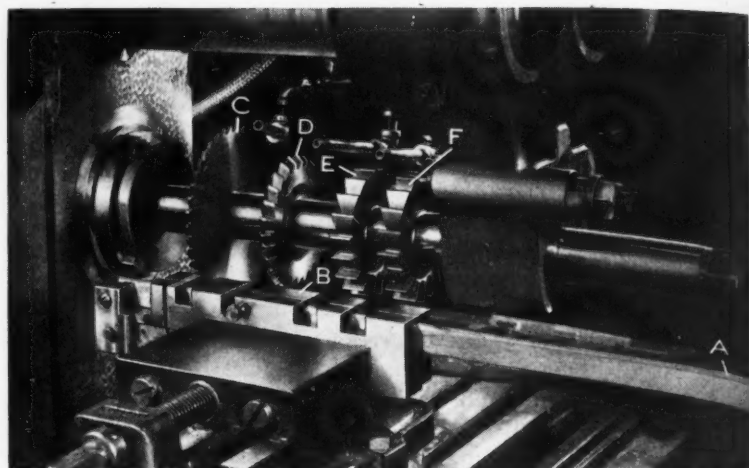
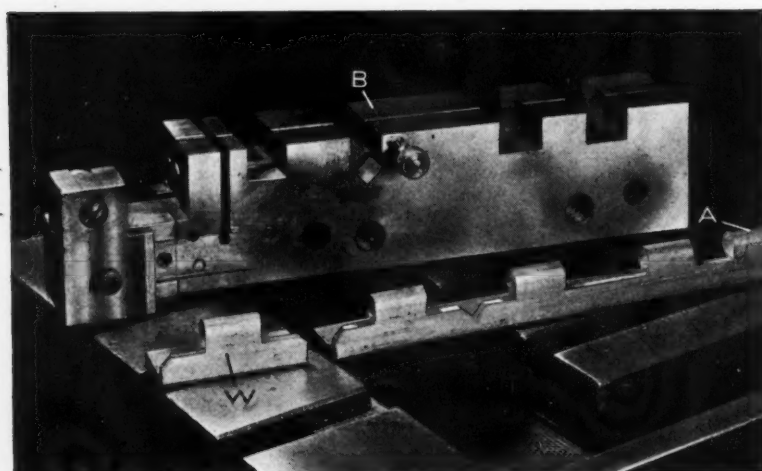

Fig. 1. Milling Machine Equipped with Progressive Fixture for Production of Piece Shown at W, Fig. 2
Fig. 2. Progressive Milling Fixture and Completed Piece *W* Cut from Bar *A* on Fourth Milling Cut, with Bar Clamped in Fixture as Shown in Fig. 1
**P**UNCH presses equipped with progressive dies in which stock is moved from one station to another to produce a completed piece at the final station at each stroke of the press have been employed for many years. In Fig. 1 is shown a milling machine equipped with a fixture designed to apply this familiar progressive die principle to the production milling of small parts from bar or rod stock. The bar stock is clamped in the fixture *B*, which is shown in Fig. 2 with the stock removed. At every feeding movement of the milling machine table, each of the four cutters removes metal from the bar stock.
The principle of progressive milling as applied to the production of piece *W*, Fig. 2, is illustrated by the diagrams Fig. 3. Assume that bar *A* has been fed into the fixture up to the stop *S*, indicated in view *G*, and clamped in this position. The bar is then fed past the cutters *C*, *D*, *E*,